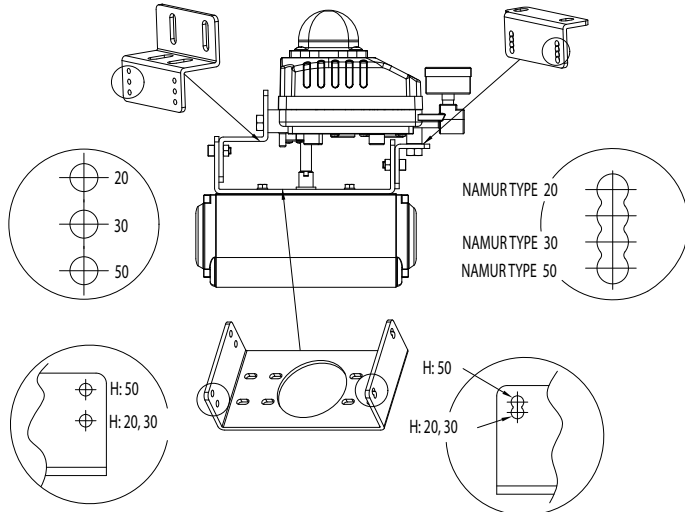
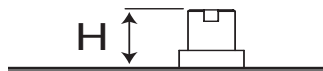

Figure 5
Figure 6
Care must be taken when assembling the two top brackets to the bottom brackets. Please refer to **Figure 5** for proper placement. Failure to do so will cause the positioner to be misaligned to the actuator shaft causing binding and poor performance.
1. Standard actuator stem height (**H**) is .79" (20mm), 1.18" (30mm), or 1.96" (50mm). After checking "**H**" (**Figure 6**), assemble with the bracket as shown in **Figure 5**.